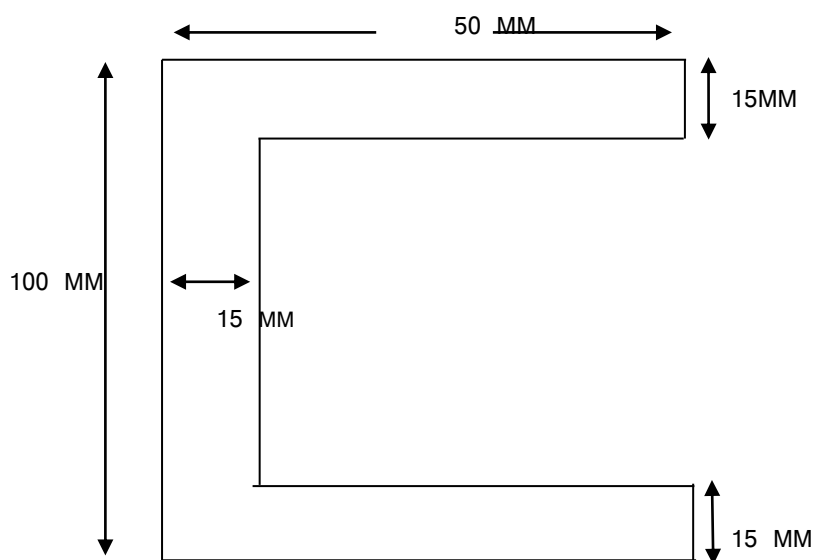

FIG. 1
- (c) Find centroid of C-section shown in figure 1. 07
- (c) Find moment of inertia of C-section shown in figure 1. 07